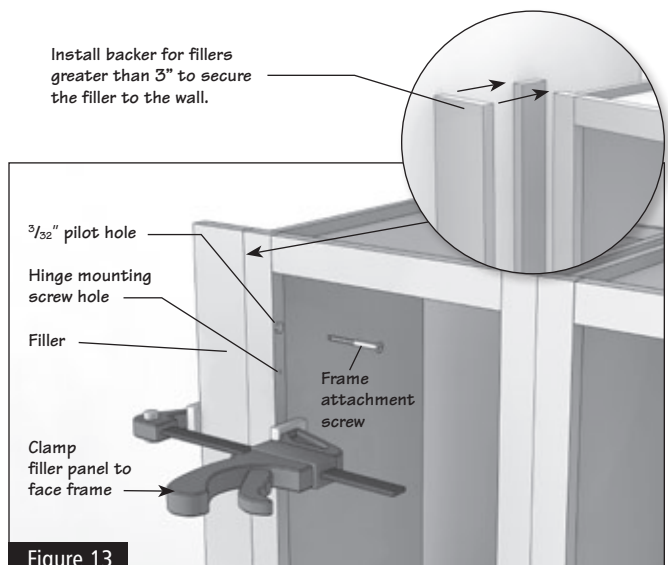

Figure 13
- 4.3** Fasten the filler to the cabinet with #8 x 2 1/2" frame attachment (trim head) screws. (Figure 13)